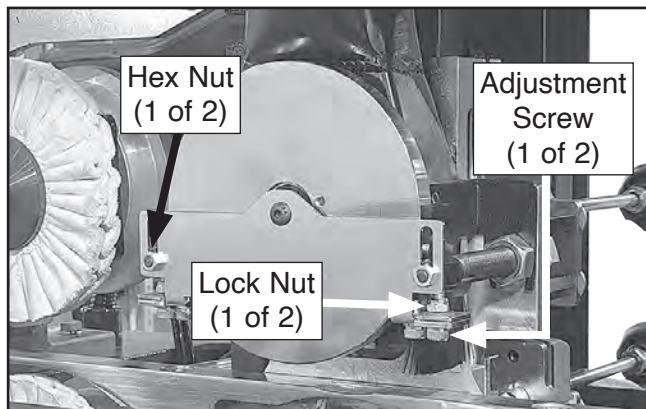

Figure 113. Detail of flush trimmer adjustment components.
5. Rotate adjustment screw (see **Figure 113**) *clockwise* to move cutterhead away from tracer wheel; *counterclockwise* to move cutterhead closer.